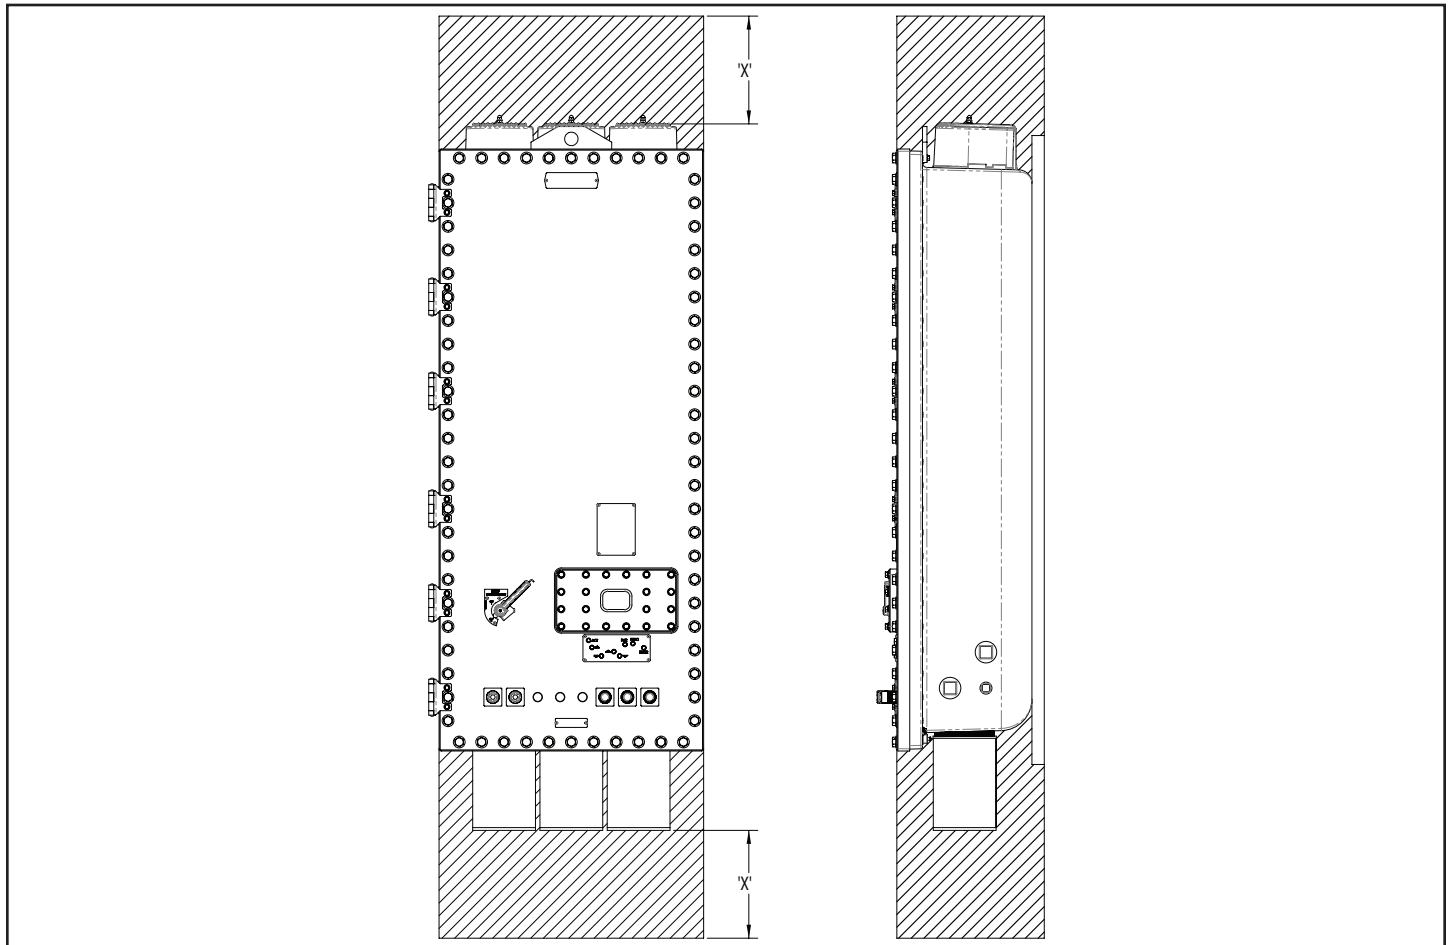

Figure 1
To avoid cooling system malfunction and personnel injury, be sure to torque the first eight (8) cover screws sequentially per Figure 1 before torquing the remaining screws.